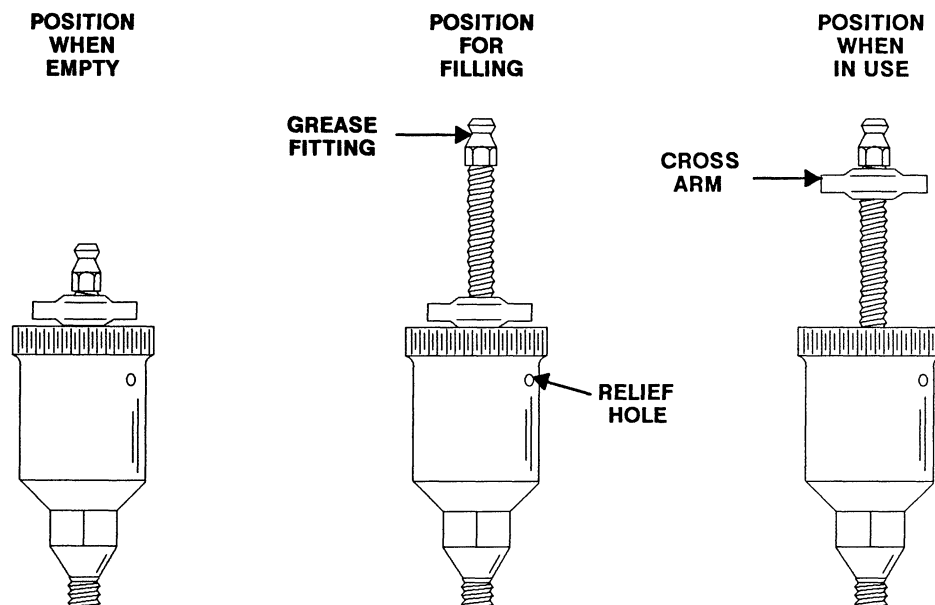

Figure 5. Automatic Lubricating Grease Cup
Fill the grease cup (16) through the grease fitting with No. 2 lithium base grease until grease escapes from the relief hole. Turn the grease cup arm counterclockwise until it is at the top of the stem; this will release the spring to apply grease to the seal (see Figure 5).